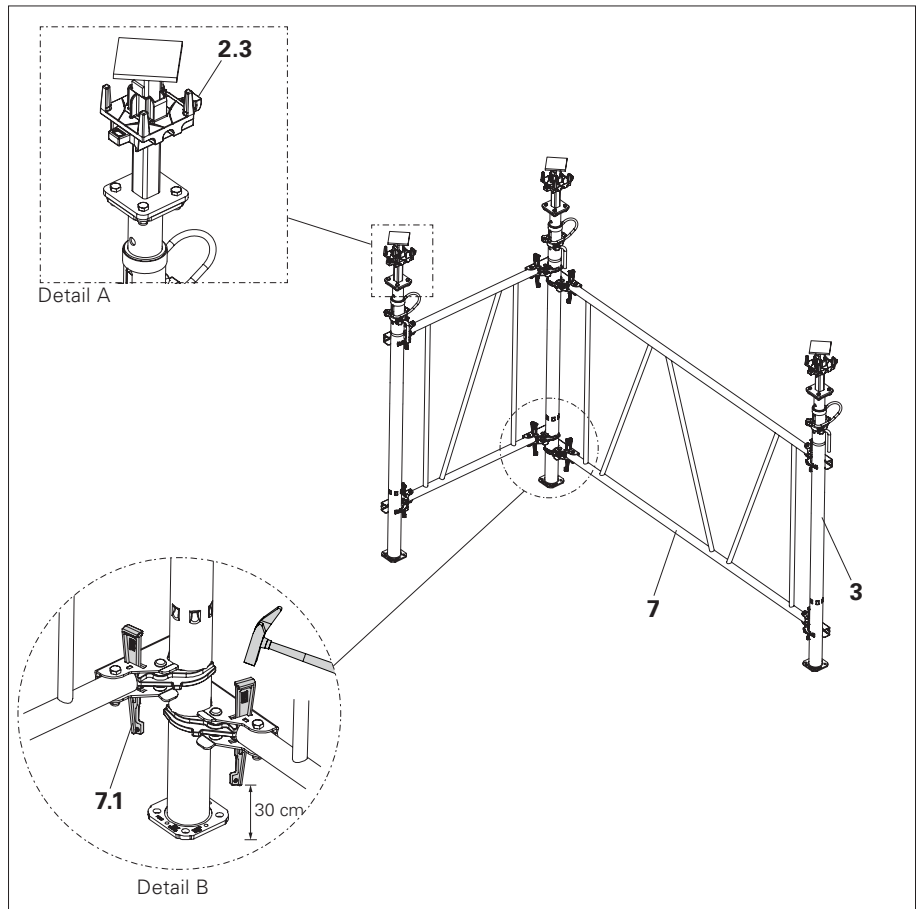

Fig. A5.01
1. Extend props (3) to required working height. Refer to Preparation of slab props on page 12.
2. Erect three props at the starting corner (L-shaped). (Fig. A5.01)